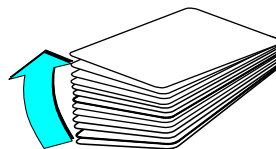

Figure 2-2: Fan cards
- 2 Fan cards to separate the edges of the cards (see Figure 2-2).